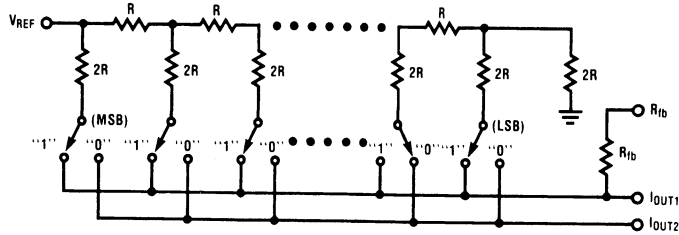

FIGURE 6
The analog circuitry, *Figure 6*, consists of a silicon-chromium (SiCr or Si-chrome) thin film R-2R ladder which is deposited on the surface oxide of the monolithic chip. As a result, there are no parasitic diode problems with the ladder (as there may be with diffused resistors) so the reference voltage,  $V_{REF}$ , can range  $-10\text{V}$  to  $+10\text{V}$  even if  $V_{CC}$  for the device is  $5V_{DC}$ .
*Figure 6*. The MOS switches operate in the current mode with a small voltage drop across them and can therefore switch currents of either polarity. This is the basis for the 4-quadrant multiplying feature of this DAC.